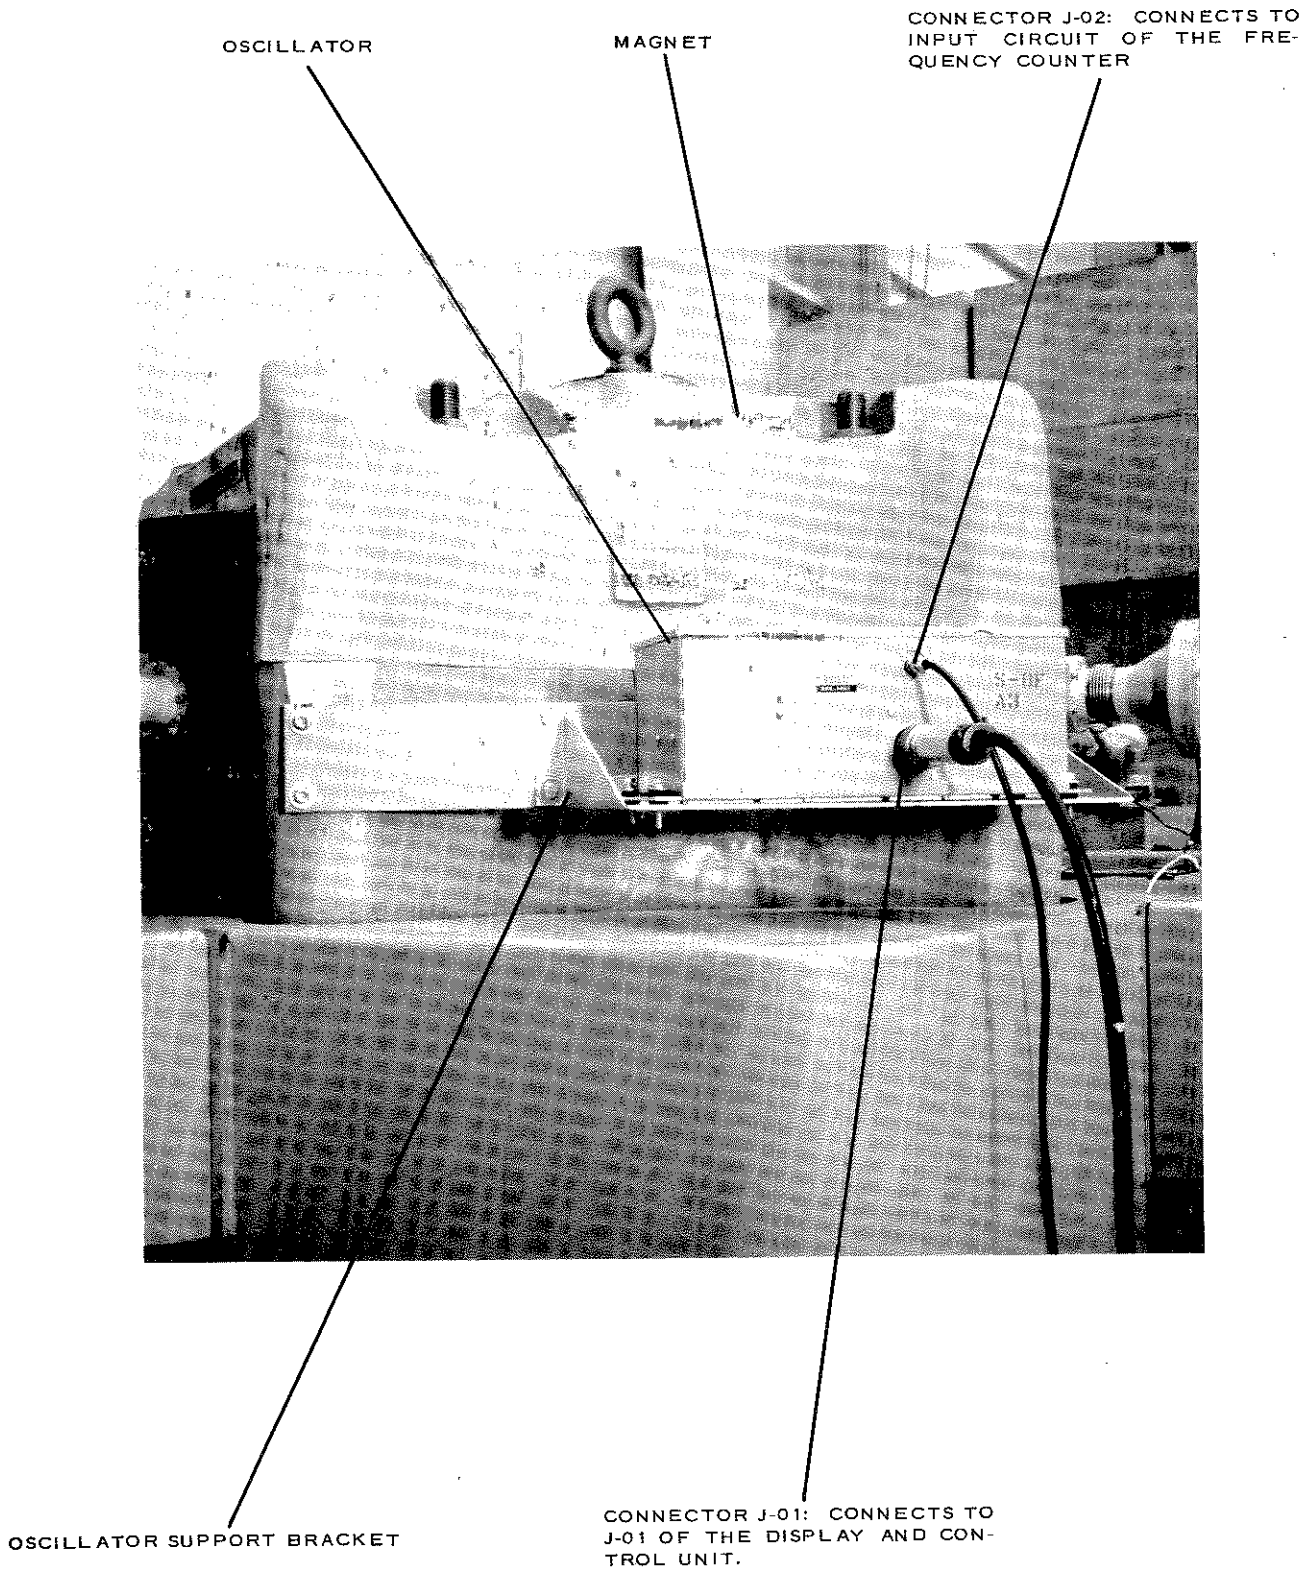

FIGURE 3. TYPICAL INSTALLATION – NMR OSCILLATOR
3. INSTALLATION PROCEDURE (Refer to Figure 3, page 4 .)